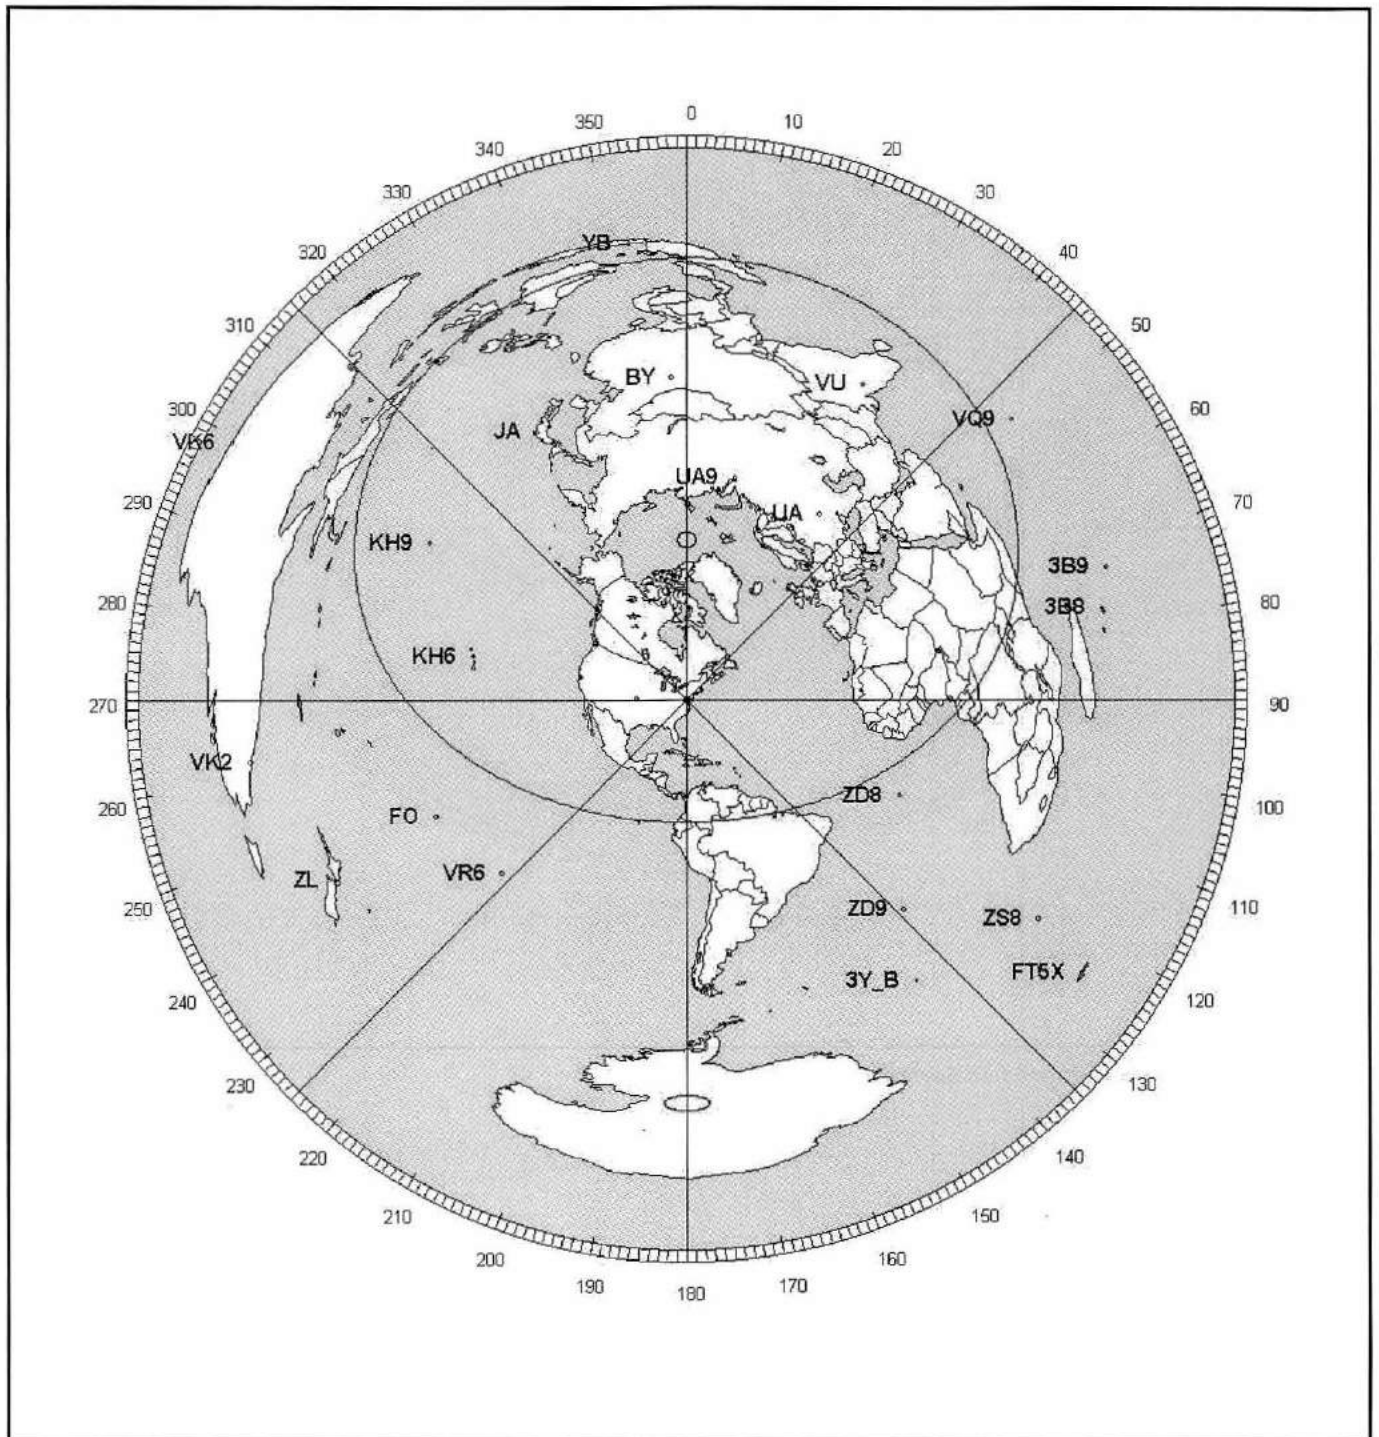

Fig 6-3—Azimuthal map centered on Washington, DC. (Map generated using GCMWin version 2.3.)
**A** The Azimuthal Maps (Figs 6-3, 6-4 and 6-5) can be used to determine beam headings. Keeping in mind